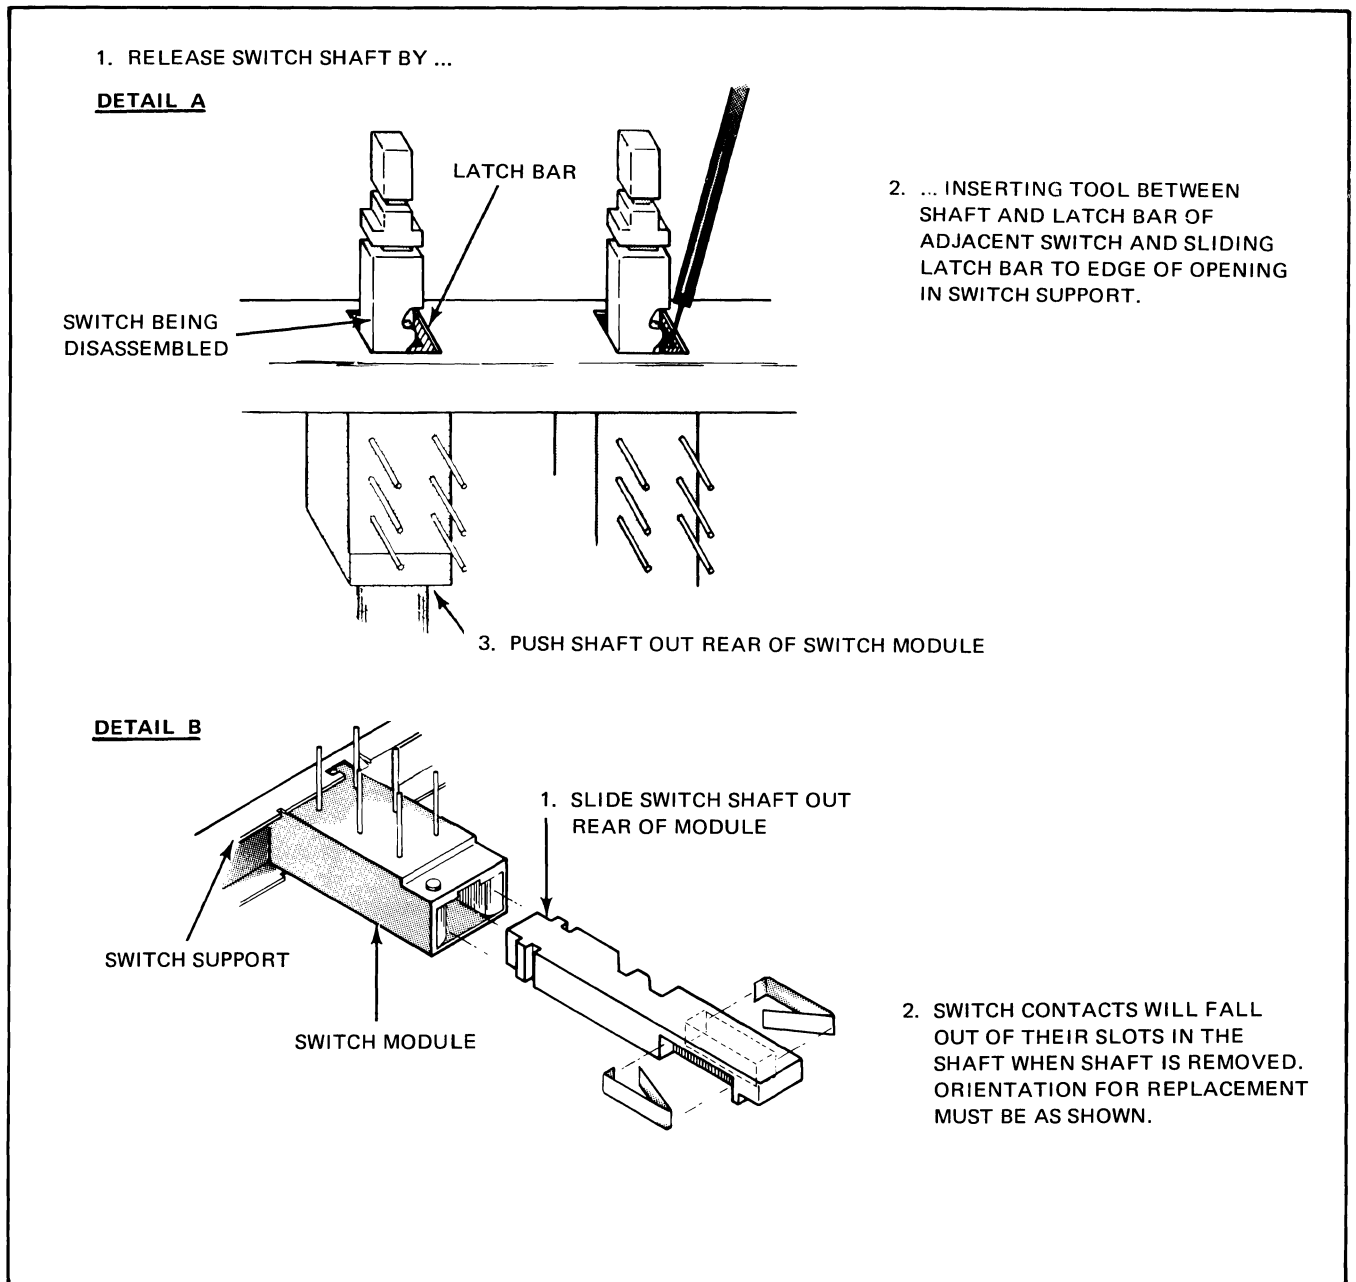

Figure 4-3. PUSHBUTTON SWITCH DISASSEMBLY
- g. Insert a tool between the latch bar and switch shaft on adjacent switch (Figure 4-3).
- d. Remove switch shaft per Figure 4-3 Detail B.